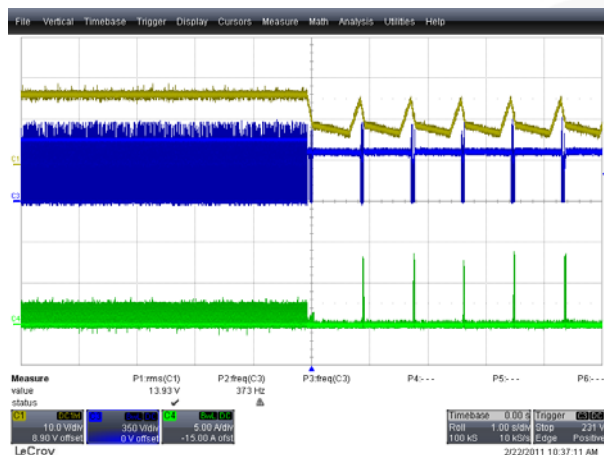
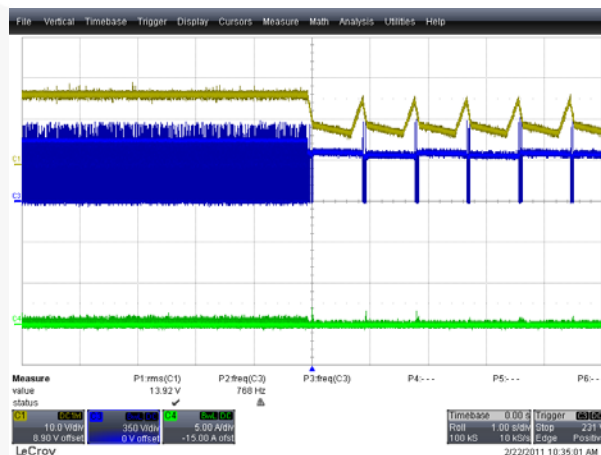

Figure 43. 90V_{AC} / 60Hz, CH1 (Yellow): V_{CC}(QR), CH3 (Blue): V_{DS}(QR), CH4 (Green): I_{DS}(QR)
Figure 44. 277V_{AC} / 60Hz, CH1 (Yellow): V_{CC}(QR), CH3 (Blue): V_{DS}(QR), CH4 (Green): I_{DS}(QR)
Figure 43 and Figure 44 show the V_{DS} and I_{DS} waveforms of the MOSFET (QR) at short-load condition. The IC repeats ON and OFF functions in this mode.